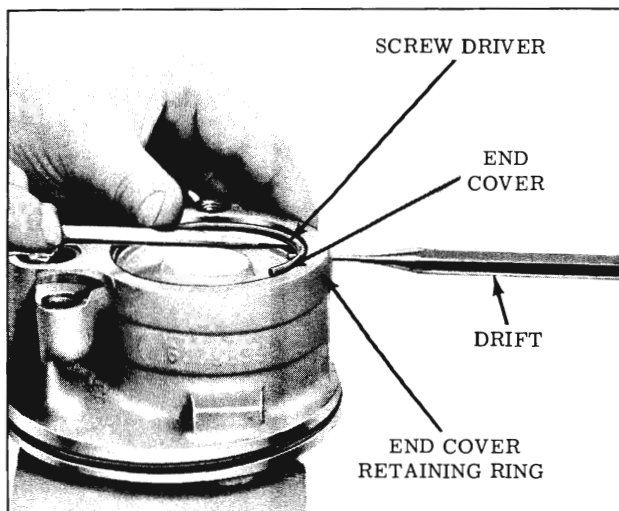

Fig. 4-232 Removing Cover Retainer
5. Rotate retainer ring so that one end is over hole in side of housing. Remove end cover retaining ring using 1/8" diameter hole in pump housing. When ring is in depressed position, remove as shown with screwdriver. (Fig. 4-232)